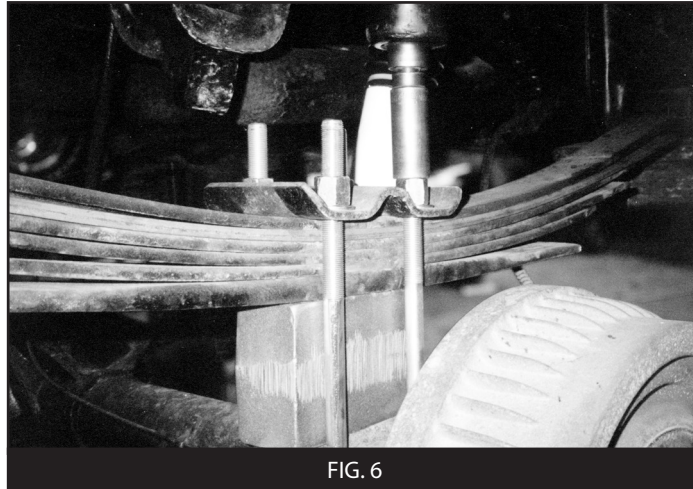

FIG. 6
7. Place lift blocks on top of axle spring seat, tapered end forward and secure with supplied u-bolts. Torque u-bolts to 130-150 ft.lbs. (Fig.6)